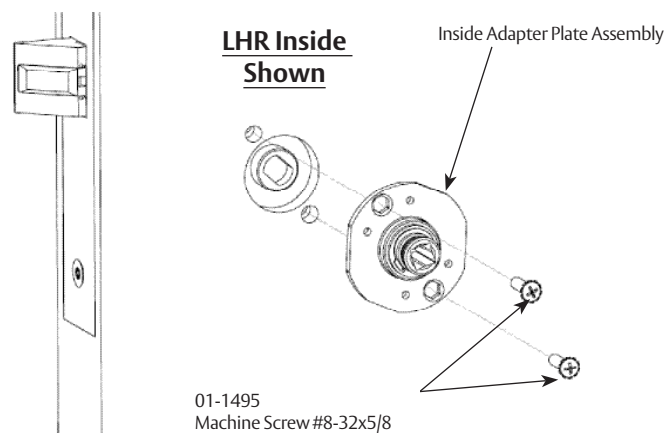

Figure 11
Install inside adapter plate assembly using two (2) machine screws. (Figure 11)